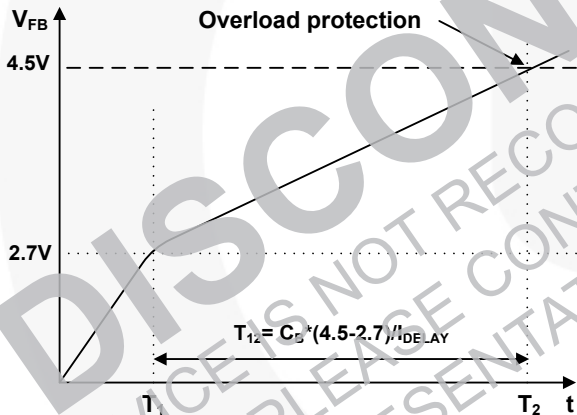

Figure 18. Overload Protection
3.1 Overload Protection (OLP): Overload is defined as the load current exceeding its normal level due to an unexpected abnormal event. In this situation, the protection circuit should trigger to protect the SMPS. However, even when the SMPS is in the normal operation, the overload protection circuit can be triggered during the load transition. To avoid this undesired operation, the overload protection circuit is designed to trigger after a specified time to determine whether the situation is transient or a true overload. Because of the pulse-by-pulse current limit capability, the maximum peak current through the senseFET is limited and, therefore, the maximum input power is restricted with a given input voltage. If the output consumes more than this maximum power, the output voltage (V_O) decreases below the set voltage. This reduces the current through the opto-coupler LED, which also reduces the opto-coupler transistor current, thus increasing the feedback voltage (V_{FB}). If V_{FB} exceeds 2.7V, D1 is blocked and the $5\mu A$ current source starts to charge C_B slowly up to V_{CC} . In this condition, V_{FB} continues increasing until it reaches 4.5V, when the switching operation is terminated, as shown in Figure 18. The delay time for shutdown is the time required to charge C_B from 2.7V to 4.5V with $5\mu A$. In general, a 10 ~ 50ms delay time is typical for most applications. This protection is implemented in auto restart mode.